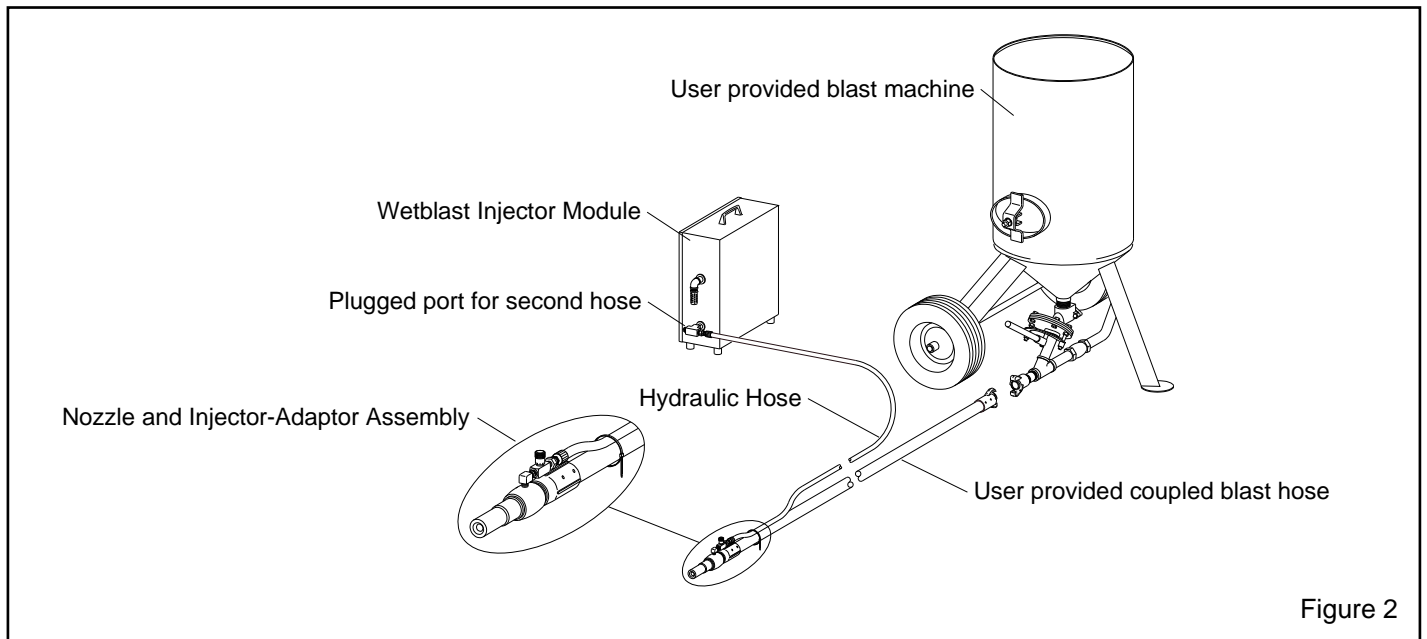

Figure 2
**1.4.1** The wetblast water-injector is a stand-alone system that provides water injection capability to any dry abrasive-blast machine. The unique water-injection design, combined with precise abrasive and water metering, reduces or eliminates dust normally found with dry blasting operations. The illustration in Figure 2 shows a typical set up with a blast machine.